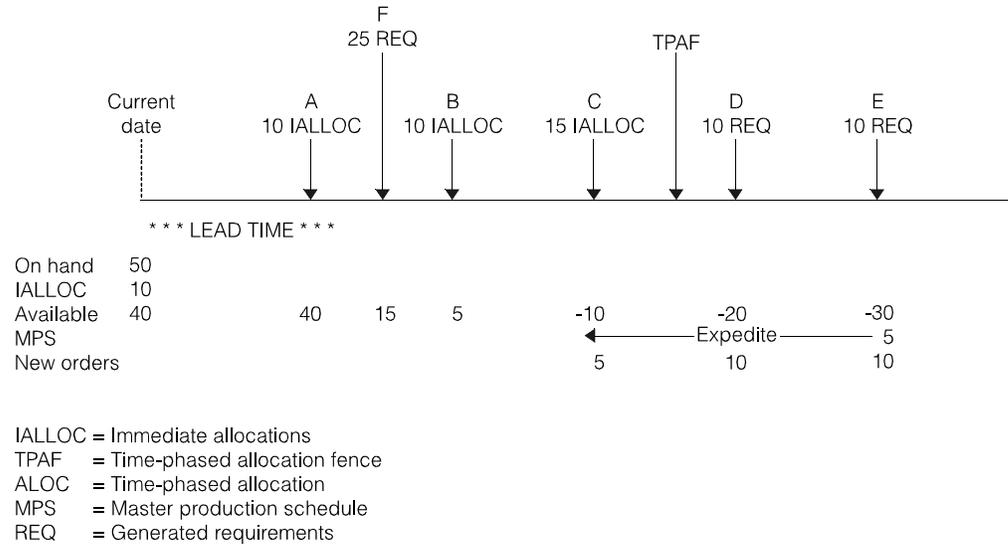

Figure 2-8. Item with time-phased allocation and a lead-time shorter than the TPAF.
- Case 3: An item lead-time is used to find out the location of the time-phased allocation fence (Figure 2-8).
Case 3. Figure 2-8 shows an example for which the item's lead-time is shorter than the allocation date specified on the Maintain Horizon Values display.
Comparing Figure 2-7 with Figure 2-8, notice that in Figure 2-8 MRP creates the order for 5 units at a later date, and the number of days required to expedite the order for 5 units is lower.